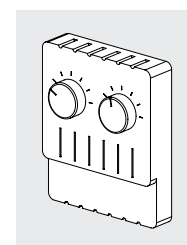

Figure 14
- 8.7 The switchboard can be equipped with a heater. The heater can be automatically adjusted by a built-in thermostat or by an external thermostat. Check the documentation provided with the control cabinet. When both the heater and the cooling fan are present, the external thermostat has dual adjustment. The parameters are preset by Modine. If necessary, adapt the settings to local operating conditions. See Figure 14 as an example.